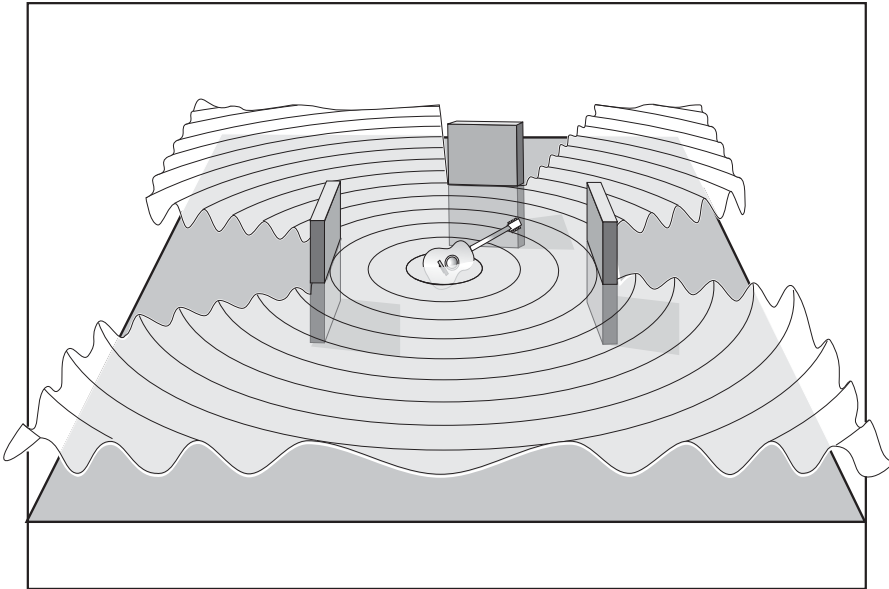

FIGURE 3.1
- **Diffuse the situation.** Use diffusion devices, such as sections of acoustic foam, stand-alone baffles, and perhaps sections of plywood placed on the floor to fit your specific session needs. Figure 3.1 shows how properly placed baffles will block and absorb most initial reflections. In this instance, reflections coming back off the wall are not an issue. Baffles might be used as absorption devices or reflective devices, depending on the situation. Note that absorption devices do not affect some frequencies, such as low lows.